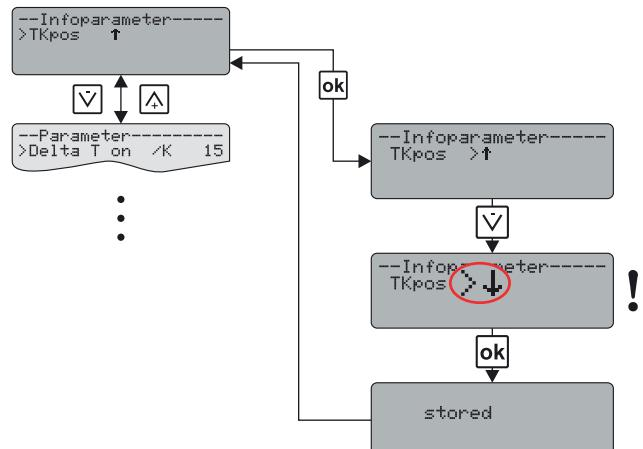

Fig. 6-8 Setting parameter "TKpos" at mounting position solar panel "bottom"
- If the solar panel sensor for DrainBack systems has been mounted at the bottom of the solar panel, in accordance with the installation instructions, the parameter "TKpos" must always be changed over to "↓" (see fig. 6-8).